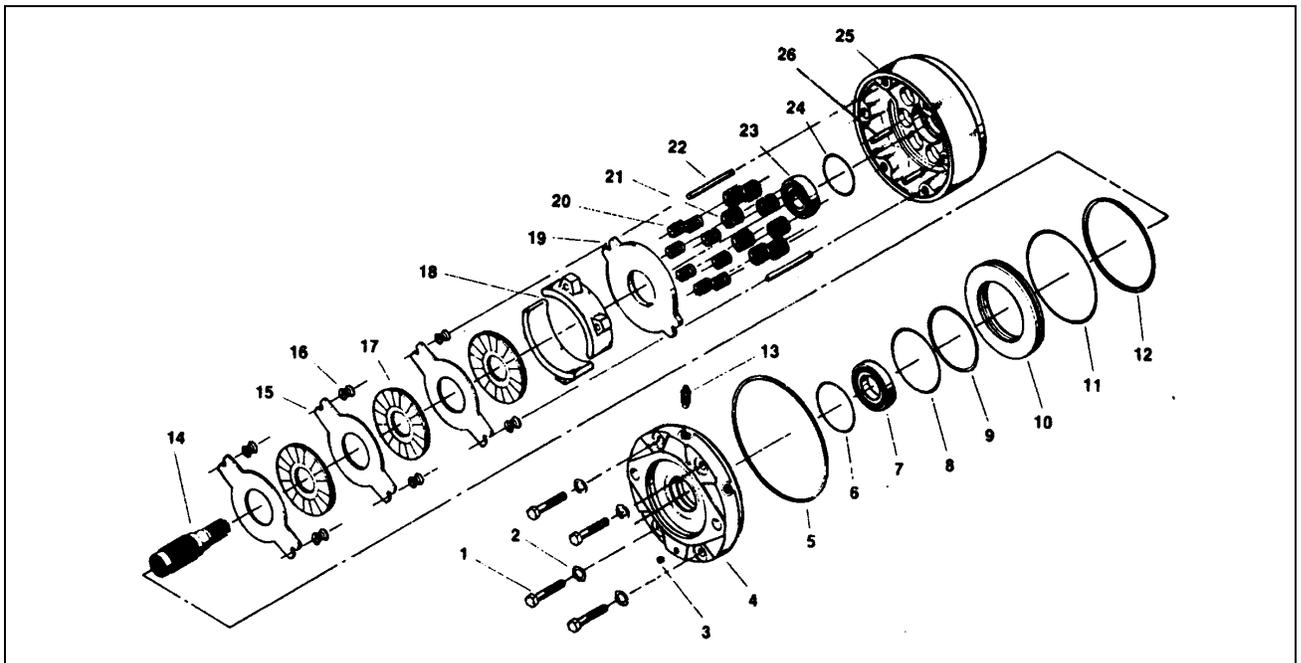

Figure 2-40. Drive Brake Assembly - Mico (Machines Built Prior To May 1992).
2.27 DRIVE BRAKE, MICO. (MACHINES BUILT PRIOR TO MAY 1992)(SEE FIGURE 2-40.)